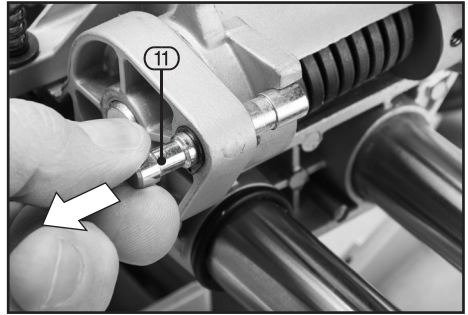

FIG.8
8.10 SAW HEAD LOCKING PIN – FIG.8